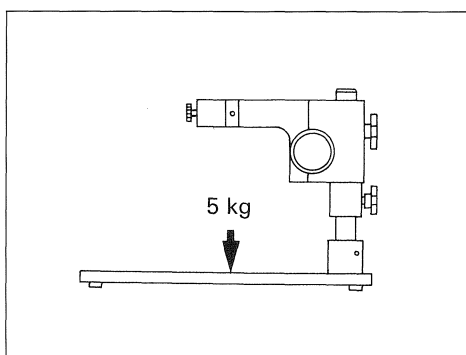

Fig. 3
- 2) Specimen load (Fig. 3) up to 5kg (11.02lb)